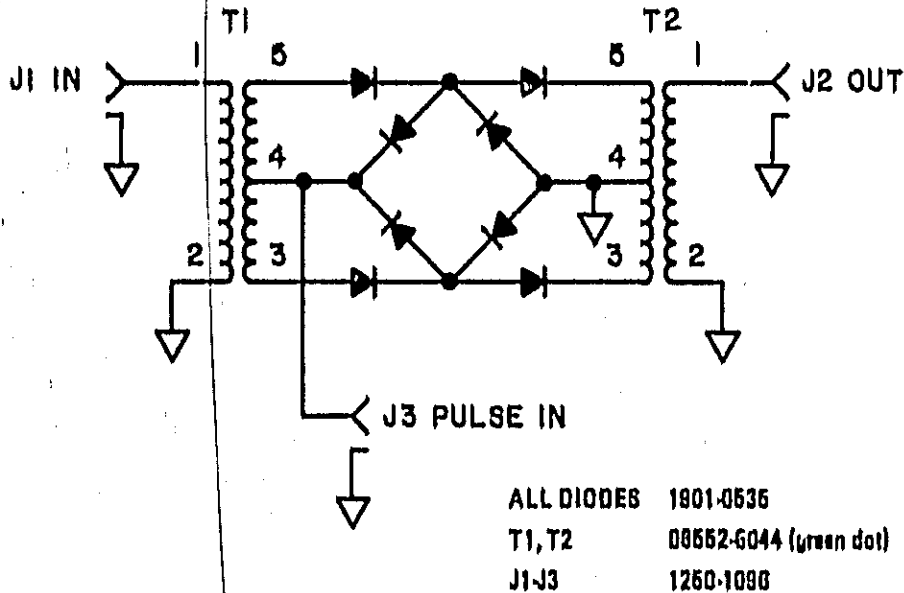

Figure 4-7. Pulse Modulator, Schematic Diagram
*Figure 4-7 is a schematic diagram of a pulse modulator that has sufficient on/off ratio for use up to 100 MHz. It may be substituted for the Watkins-Johnson pulse modulator.